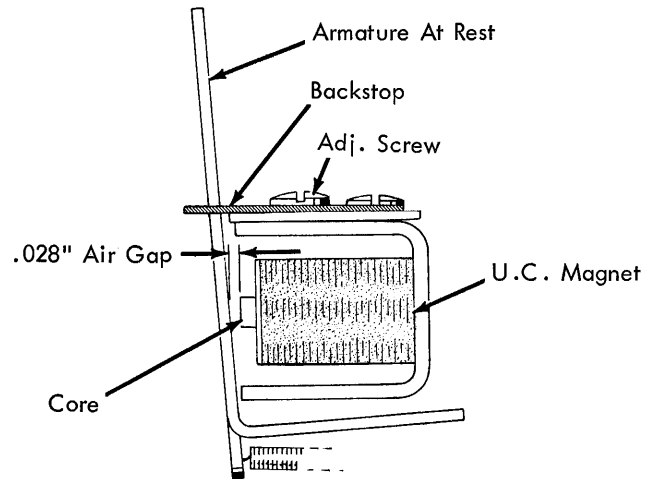

FIGURE 76. Armature Backstop, 11 Inch Machine
3. Armature Backstop, 11 Inch Machine (Early) (Fig. 76) - Adjust the armature backstop (UC magnet - armature at rest) so that the armature clears the core by .028".